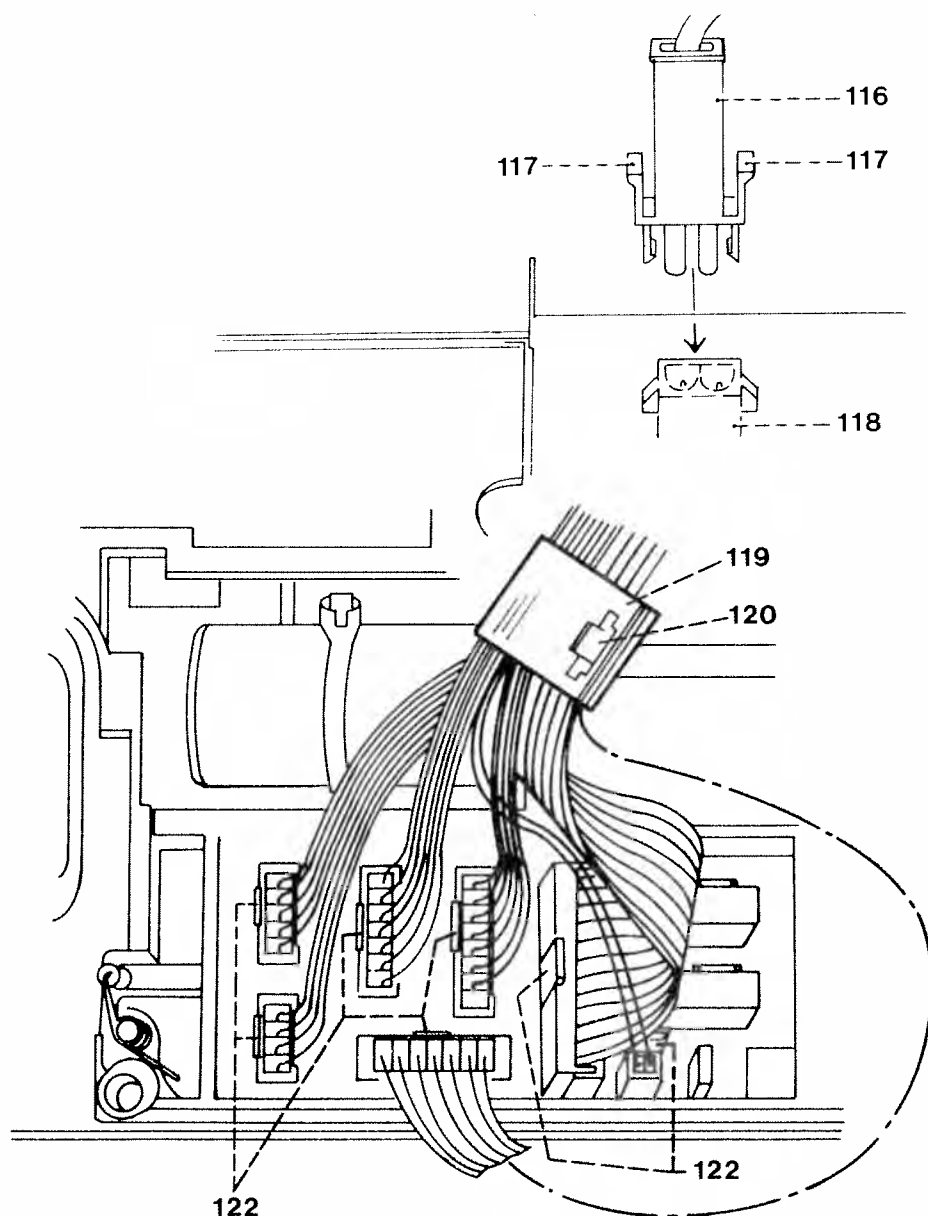

Fig. 26
- Lift catches 122 by 1–2 mm and remove the plug of the seven-wire cable from the printed circuit board (Fig. 26).